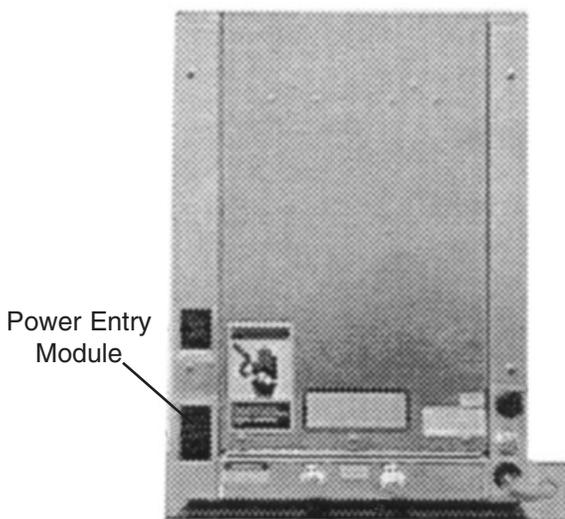

Figure 8: Power Cord Adjustment
4. Turn the unit on by depressing the ON/OFF switch on the power entry module in the rear of the EASYpure RO. (See Figure 8)